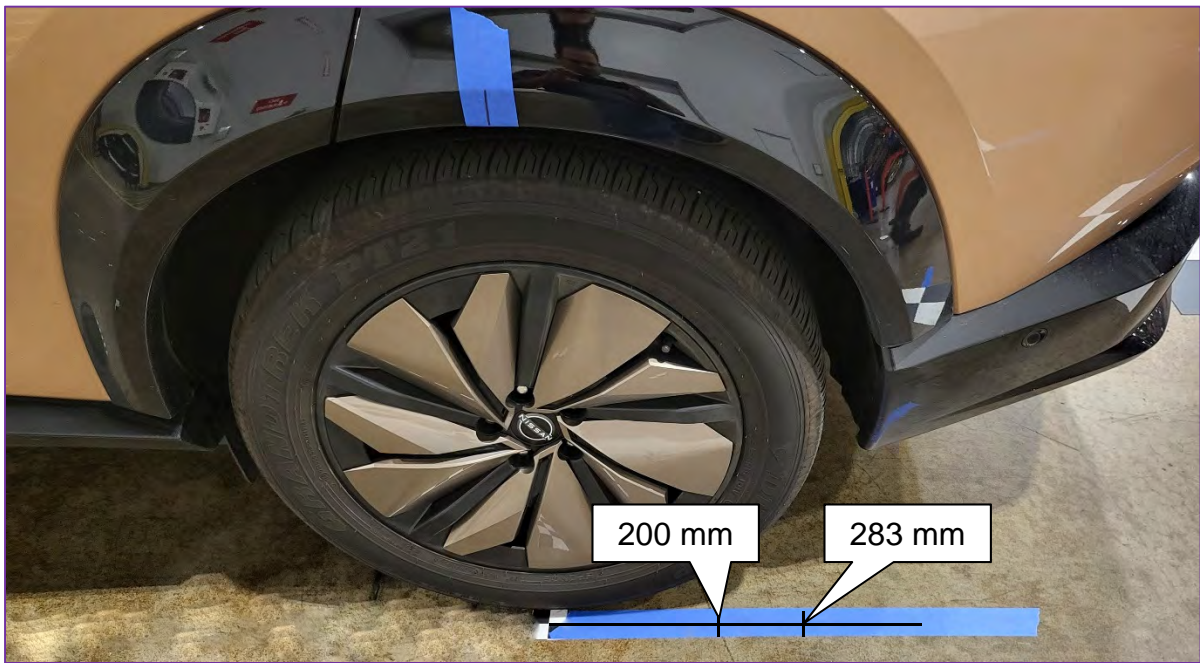

Figure 94
64. Measure 200 mm and 283 mm from the center point of the driver (LH) side rear wheel, and then make a mark at each measurement, as shown in Figure 94.